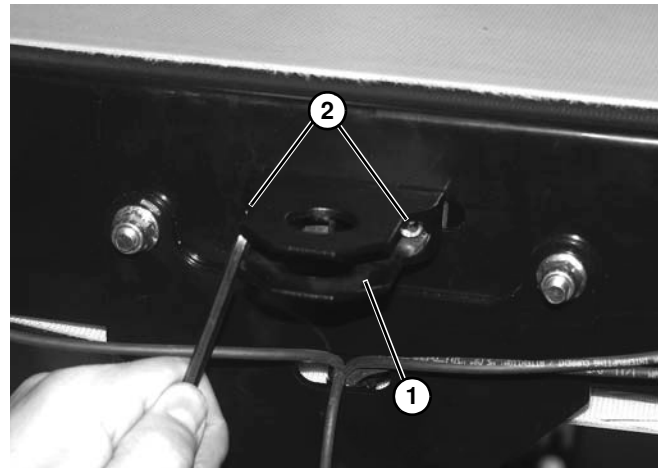

Figure 48
4. Secure mounting bracket (**Figure 48, item 1**) onto tee bar with two screws (**Figure 48, item 2**).